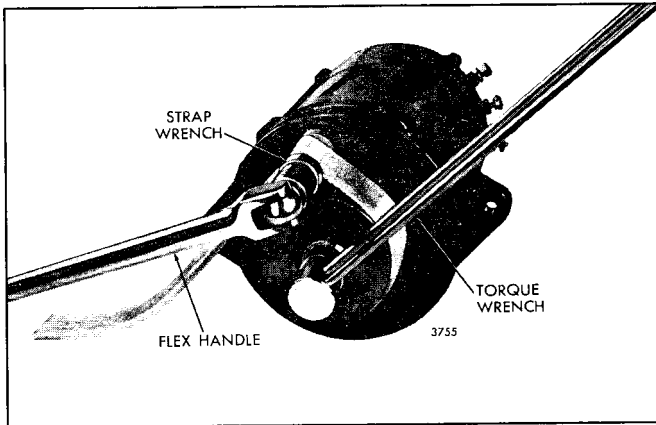

Fig. 2 - Tightening Alternator Pulley Retaining Nut
4. Remove the pulley assembly if the alternator is to be replaced (Fig. 2).
1. Install the drive pulley, if it was removed. Tighten the 5/8" - 18 pulley retaining nut to 70-80 lb—ft (95-108 N*m) torque (Fig. 2).